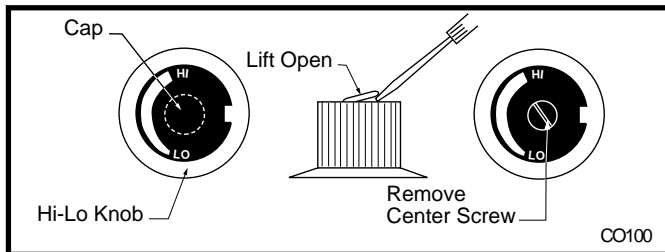

Fig. 56 Remove center screw from Hi-Lo knob.
1. Remove cap from HI/LO knob. This can be accomplished by lifting the plastic cap off the screw. (Fig. 56)
2. Remove the screw from center of HI/LO knob with small screwdriver turning counterclockwise. (Fig. 56)